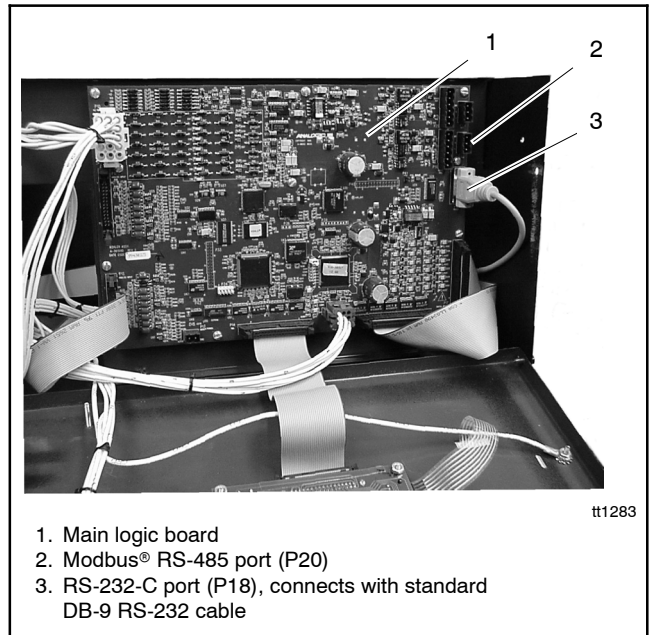
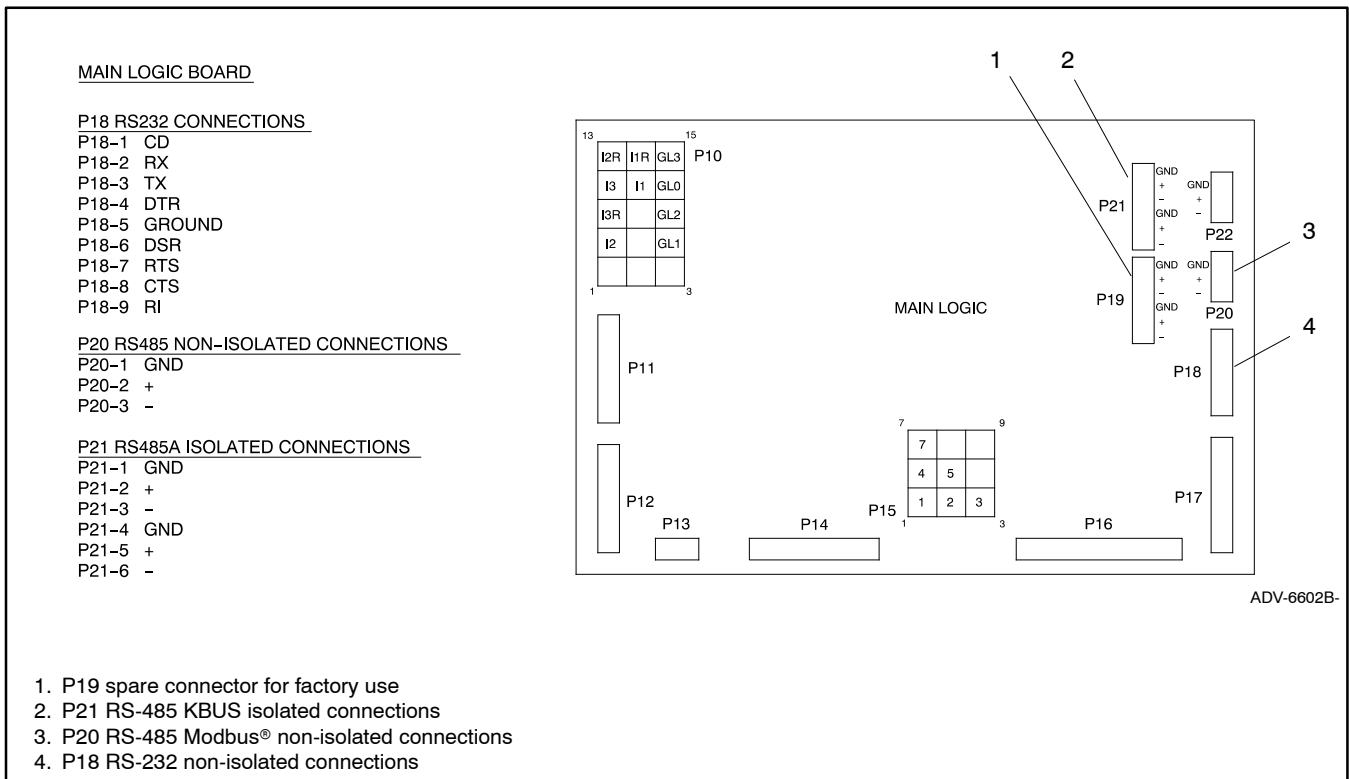

Figure 4-3 Communication Port Locations for Decision-Maker™ 550 Generator Set Controller
Figure 4-4 Communication Connections Pin Identification
5. Open the enclosure and locate the connection ports as shown in Figure 4-3 and Figure 4-4.